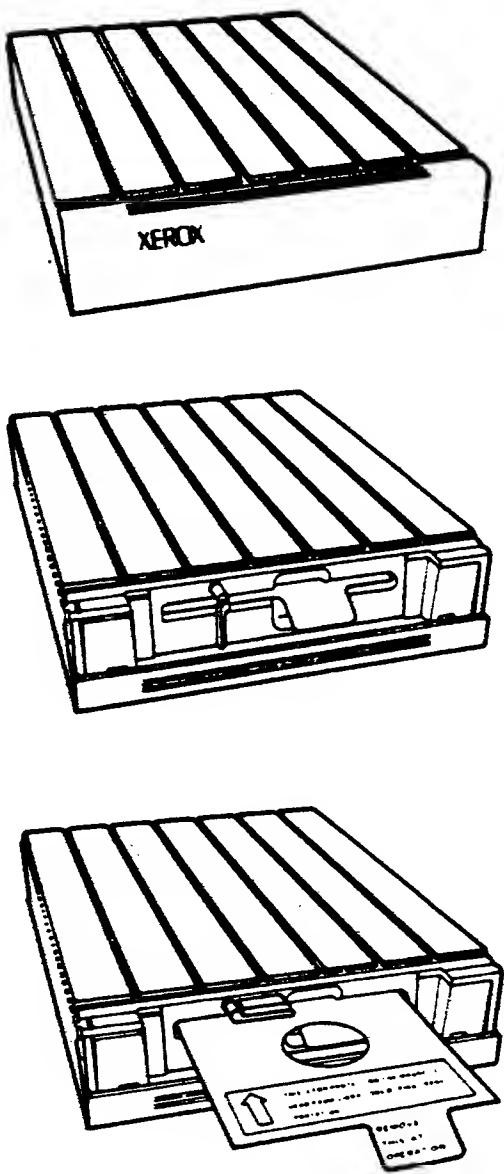

Figure 2-23. Discarding the Shipping Disk
- 8. Flip the front cover of the floppy disk drive down, and slide it back, as shown in Figure 2-23.**